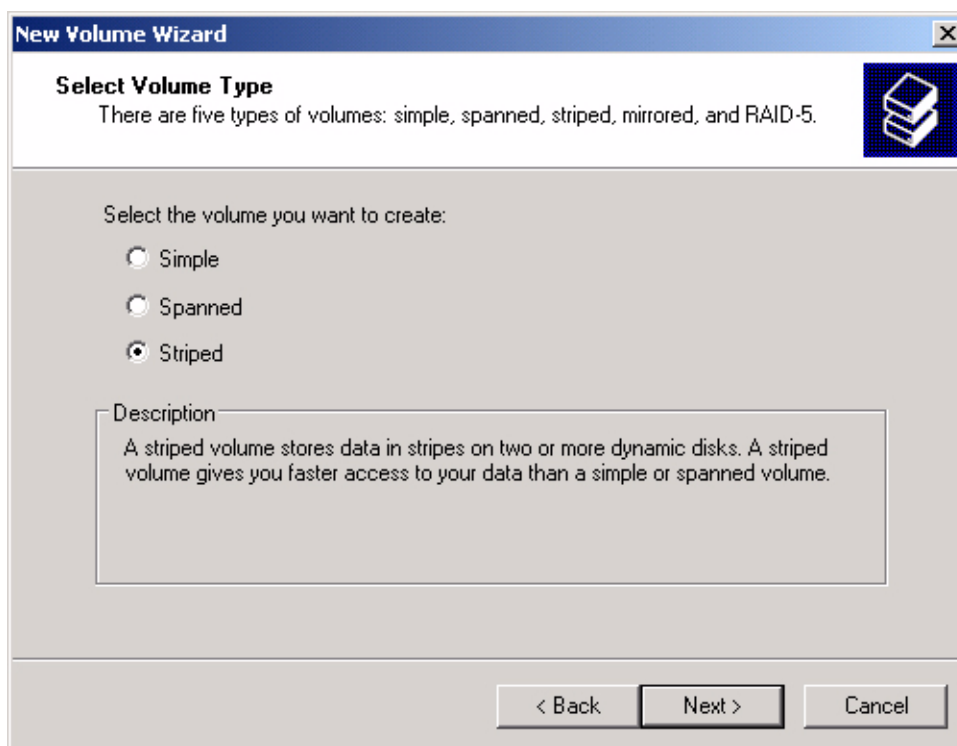

FIGURE 6-29. New Volume Wizard - Select Volume Type Screen, Showing “Striped” Selected.
1. When the *New Volume Wizard - Select Volume Type* screen appears, set the “Volume Type” to “Striped”. Click **NEXT >**. See Figure 6-29.